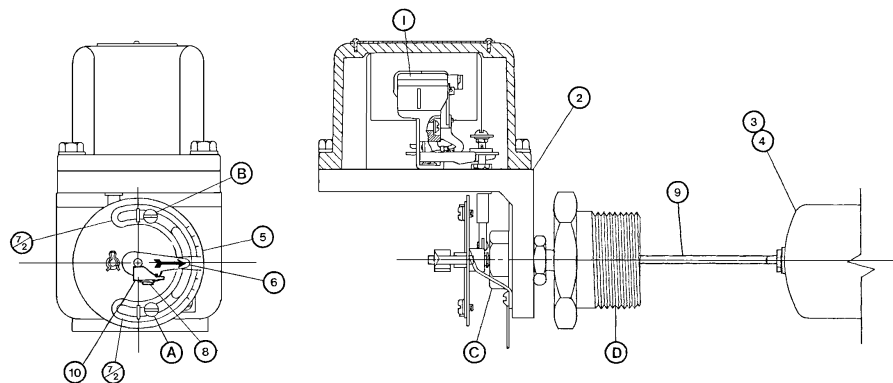

Figure 1: Class 9037 Type HR/HW Series A Float Switch
To mount the float switch (refer to Figure 1):
Float switches are shipped from the factory set for a specified float travel. Some adjustment of float travel can be made in the field. Float travel is adjusted by moving one or both of the adjusting strips (item 7 in Figure 1), held in place by screws (items A & B).
Replacement parts for Class 9037 Type HR/HW Float Switches are listed in Table 1. For parts locations, see Figure 1 on page 1. When ordering parts, always give Class, Type and Form of switch.